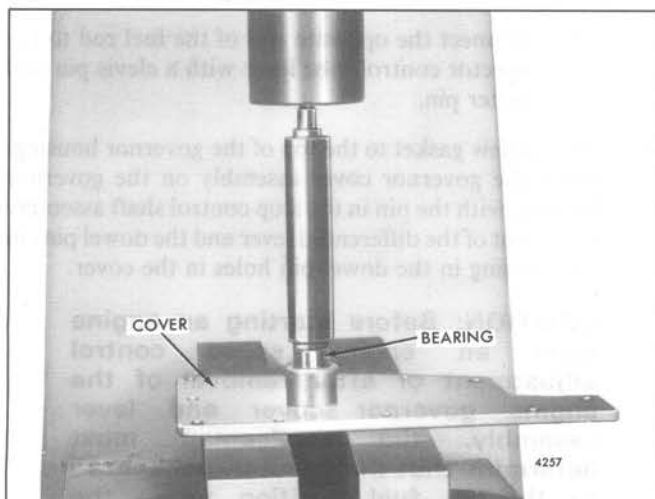

Fig. 23 – Installing Bearings in Governor Cover using Tool J 21068
- a. If the stop lever bushing (Fig. 4) was removed from the cover, place the cover, inner face down, on two steel supports on the bed of an arbor press as shown in Fig. 23. Refer to "NOTE" under *Inspection*, then lubricate the new needle bearing with engine oil and start the bearing, numbered end up, straight in the bearing bore in the cover boss.